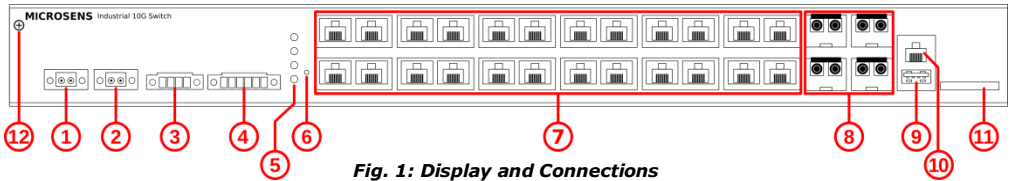

Fig. 1: Display and Connections
Ground the switch housing with the grounding screw on the front of the housing (s. Fig. 1, ⑫)!
The switch is powered by a 24...57 VDC power connection (s. Fig. 1, ①). For redundancy or load sharing reasons it is possible to connect a second power source using the same voltage (s. Fig. 1, ②). If one source fails, the alternative source takes over the power supply without interruption.
The connectors are labelled "Power 1" and "Power 2" (s. Fig. 1, ① and ②) and are equipped with 2-pin plug connectors. Please observe the polarity (terminal labelling +/-).
5.1 Status LEDs (s. Fig. 1, ⑤)
5.2.1 Ethernet (10/100Base-TX, s. Fig. 1, ⑦)
5.2.2 SFP/SFP+ (1000/10GBase-X, s. Fig. 1, ⑧)
On the front of the housing there is a reset button (s. Fig. 1, ⑥), which is accessible with a thin object. Depending on the duration, pressing this button leads to one of the following actions when released:
1. Connect your computer via console cable to the serial port of the switch (s. Fig. 1, ⑩).